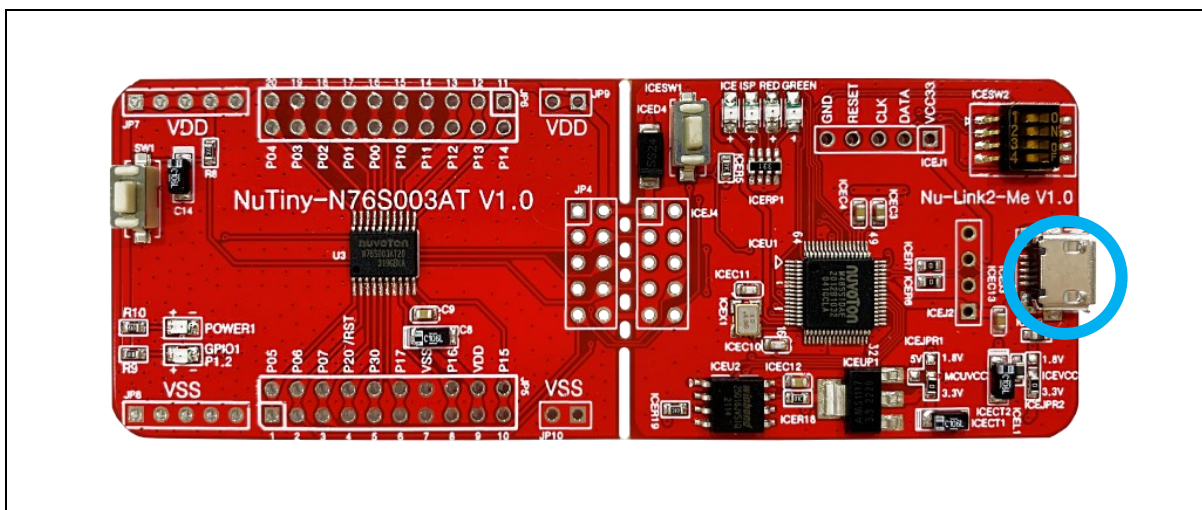

Figure 4.4-2 ICE USB Connector
2. Connect the ICE USB connector shown in Figure 4.4-2 to the PC USB port through a USB cable.